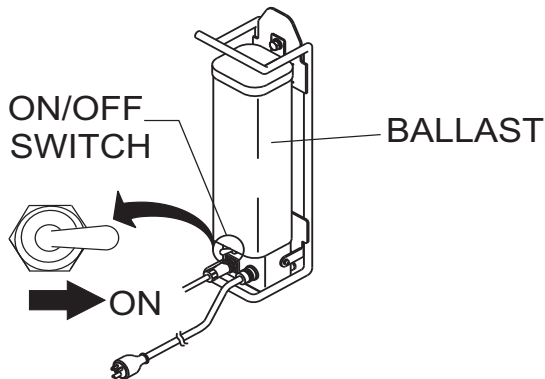

Figure 12. Ballast On/Off Switch (On Position)
3. Place the ON/OFF switch (Figure 12) on the ballast in the ON position.